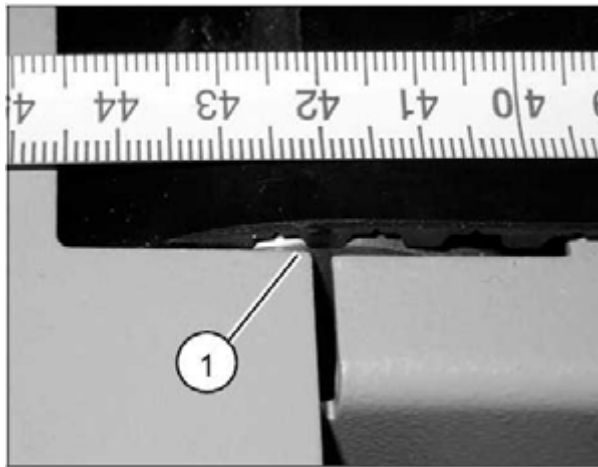
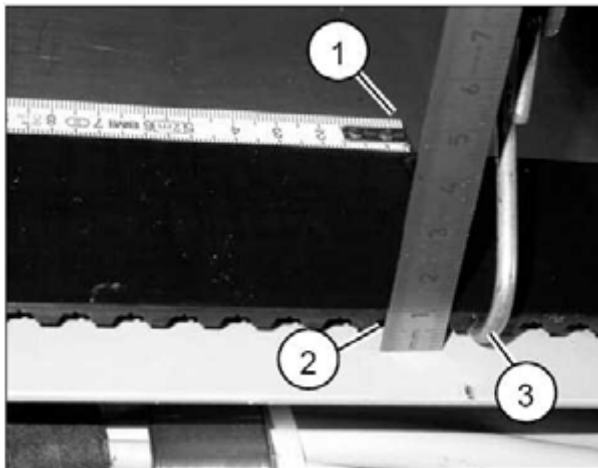
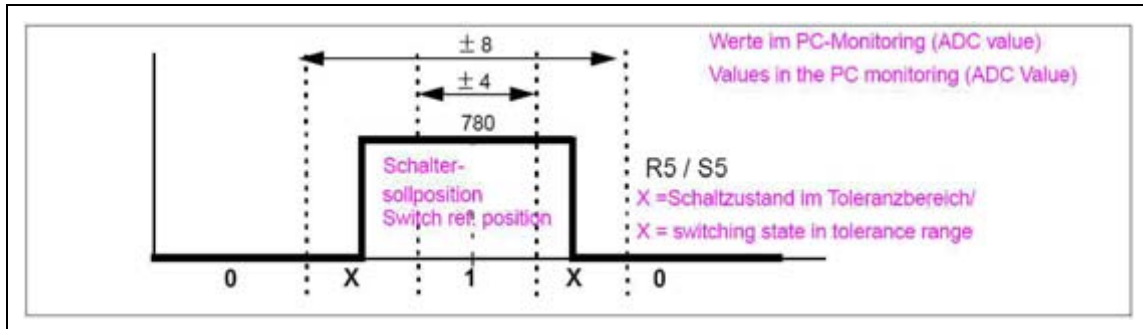

Fig. 9: Measurement_1
Fig. 10: Measurement_2
Fig. 16: Switching hysteresis S5
- The distance from the center of roller (1/Fig. 9 / p. 45) to the end stop (1/Fig. 10 / p. 45) is $420 \pm 5\text{mm}$.
- Attach the spring balance (3/Fig. 10 / p. 45) and lift it with a force of $20\text{ N} + 5\text{ N}$.
- It must be possible to raise the belt $3\text{ mm} + 1\text{ mm}$ (2/Fig. 10 / p. 45).
- Check the switching hysteresis of reference switch S5 according to \(Fig. 16 / p. 50\) Fig. 9.